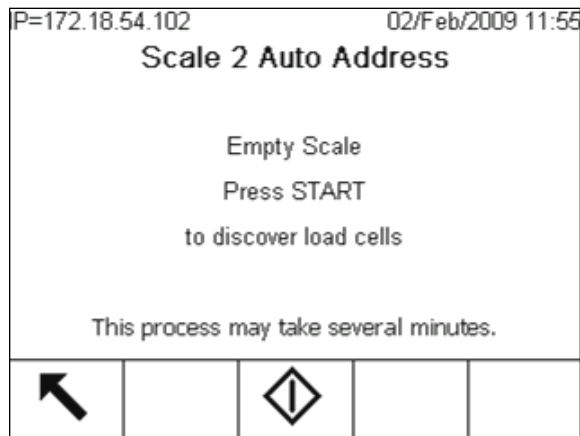

Figure 3-20: Auto Address Start Screen, PDX
1. The initial Auto Address Start screen prompts for an empty scale and displays the message (Figure 3-20):